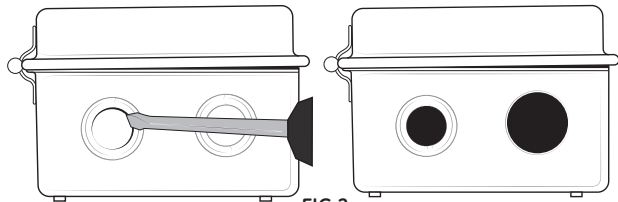

FIG 2
- Place small-blade screwdriver into inner ring of knockout circle [FIG 2].